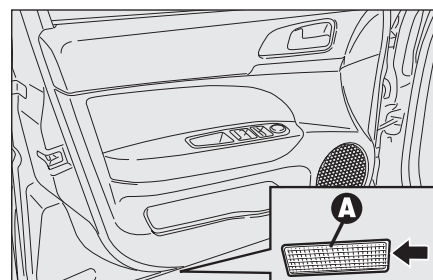

fig. 52
- ☐ open the door and remove lens **A-fig. 52** levering in the point shown by the arrow;
- ☐ close protection **B-fig. 53** on light unit **A-fig. 52**;